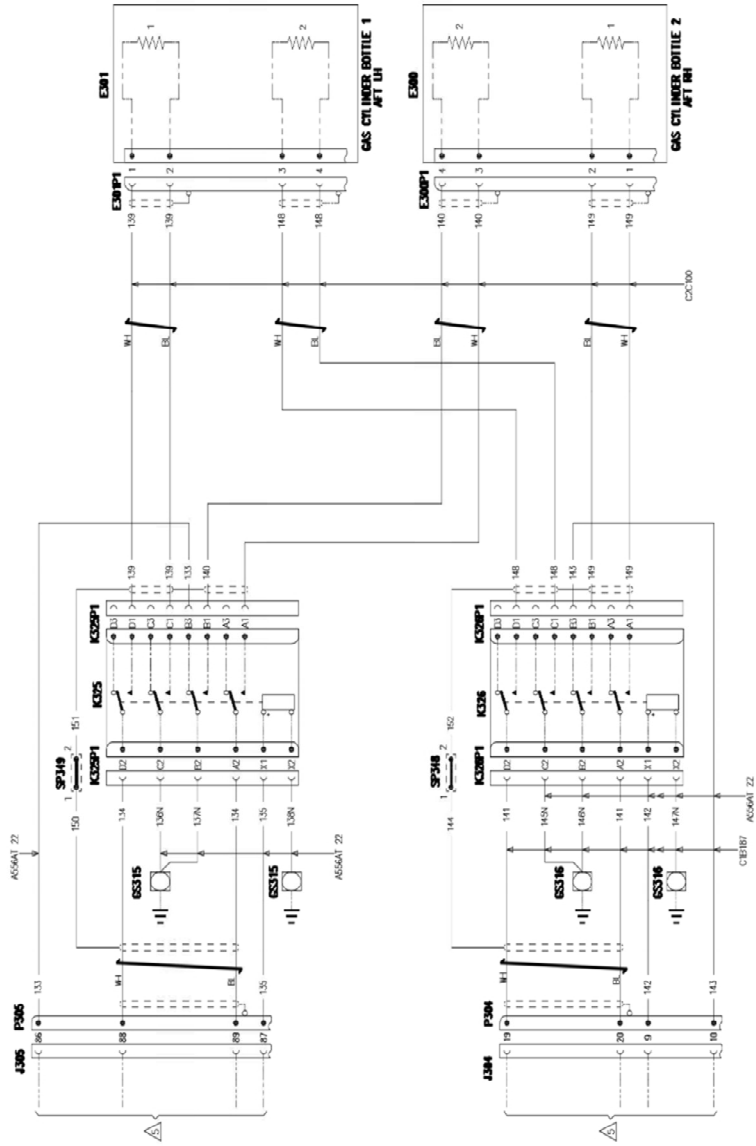
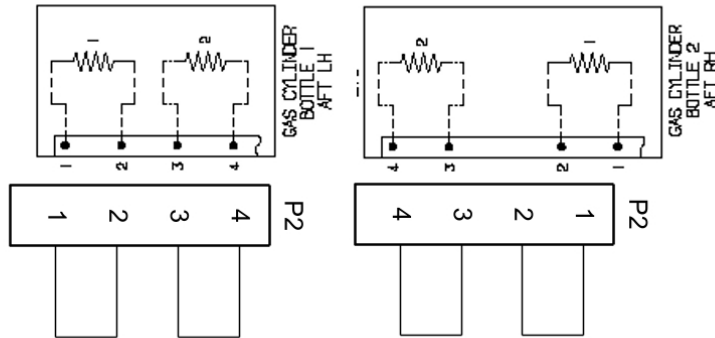

Figure 4: Flotation Wiring in Operative Condition
Figure 6: Test Shunt Connectors Implementation
- 5 Disconnect the connector E301P1 (Figure 4)
- 6 Disconnect the connector E300P1 (Figure 4)
- 9 Connect the first **Test Cable** (fuse – **Figure 4 and Figure 6**) to E301P1 connector
- 10 Connect the second **Test Cable** (fuse – **Figure 4 and Figure 6**) to E300P1 connector